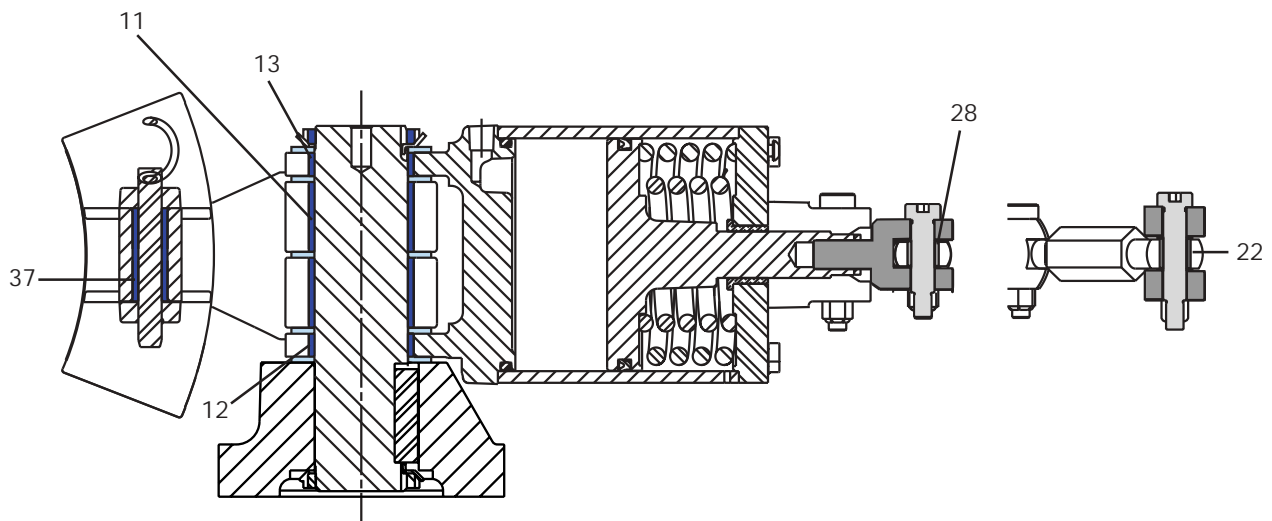

FIGURE 6
For tension control applications where the disc is held at elevated temperatures for extended periods, use a light machine oil on Bearings (Items 11, 12, 13, 22, 28, and 37) (See Figure 6).
**NOTE:** Maximum operating pressure is 6.9 bar [100 psi] (See Figure 6).